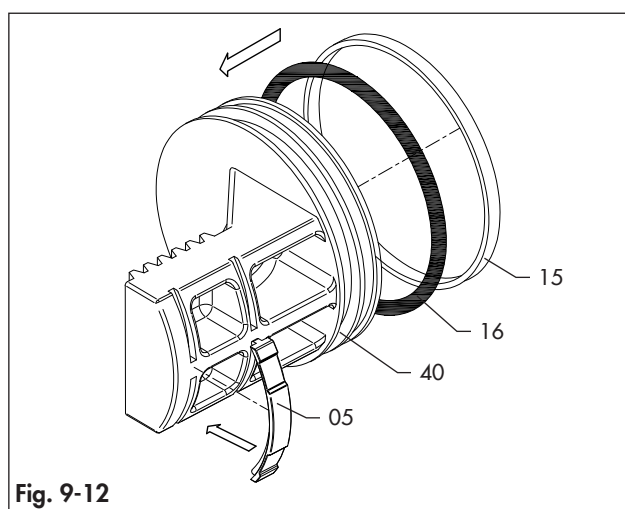
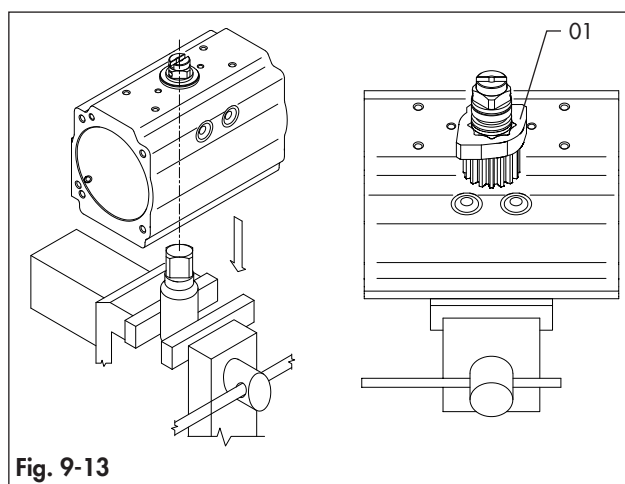
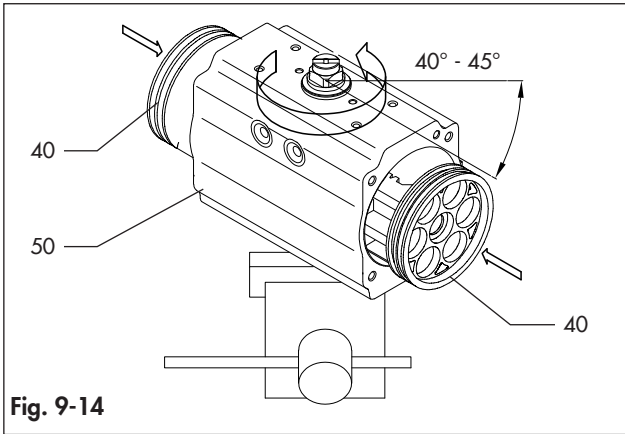

Fig. 9-12
Fig. 9-13
Fig. 9-14
- Lubricate the internal surface of the body (50) and the piston (40) rack teeth.
- Insert the female connection of the drive shaft (60/60.1) in a properly fixed coupling joint. (Fig. 9-13)
- Make sure that the octi-cam (01) is in the right position as per the Fig. 9-13.
- Rotate the body (50) about 40°-45° clockwise from top view, as shown in Fig. 9-14.
- Insert and press the two pistons (40) simultaneously inside the body (50) until the pistons are engaged.
- Then rotate the body (50) anticlockwise from top view until the stroke is completed.
Refer to Fig. 9-1, Fig 9-12, Fig 9-13 and Fig 9-14.